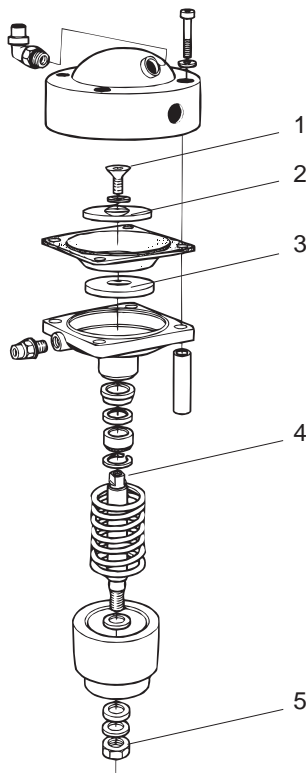

Figure 13
13:3 During reassembly check that the sealing rings (2,3) are not damaged. The washer with the O-ring chamfer (2) must be installed above the diaphragm, see *figure 13*. When tightening the allen screw, use the flats on the cylinder rod (4) to stop rotation. Tightening torque 50 Nm.